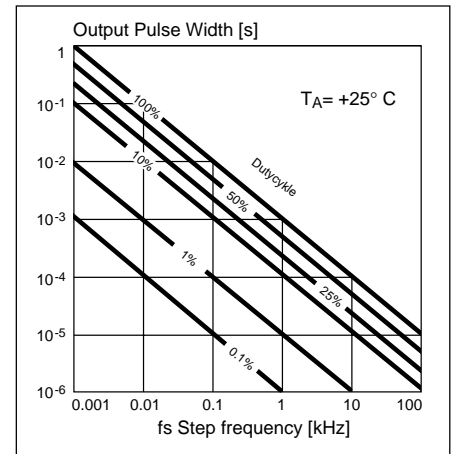

Figure 22. Typical  $t_{on}$  vs.  $f_s/dc$ . Output pulse width vs. step frequency/duty
- Figure 22 shows the relationship between duty cycle, pulse width, and step frequency. Check specifications for the valid operating area.